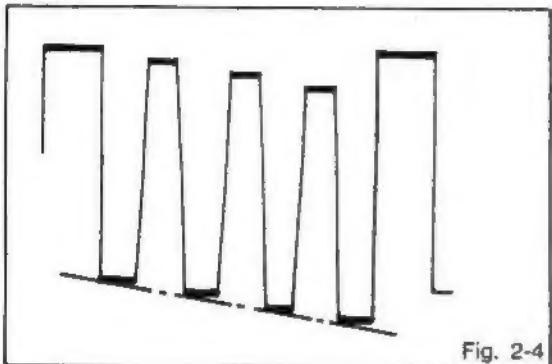

Fig. 2-4
5. Adjust VR103 until the waveform becomes as shown in Fig. 2-4.